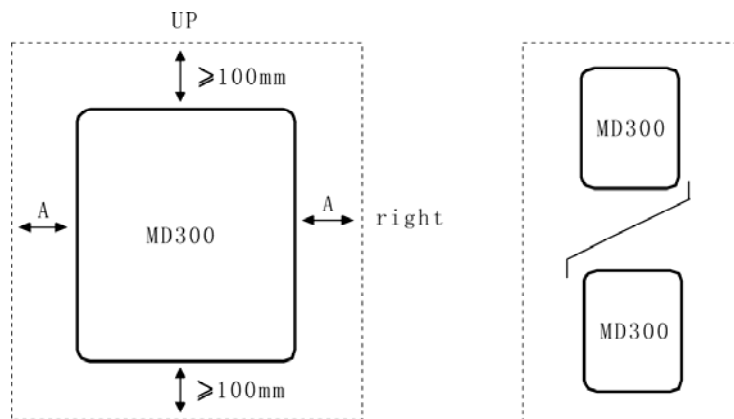

Fig.3-1 MD300 Inverter Installation Diagram
1) Install the inverter vertically so that the heat may be expelled from the top. However, the equipment cannot be installed upside down. If there are multiple inverters, parallel installation is a better choice. Fig.3-1 MD300 Inverter Installation Diagram
In applications where the inverter need to be installed up and down, please refer to Fig.3-1 “MD300 Inverter Installation Diagram” for installing heat insulation splitter.
2) The mounting space shall be as indicated as Fig.3-1, so as to ensure the heat dissipation space of the inverter. However, the heat dissipation of other devices in the cabinet shall also be taken into account.